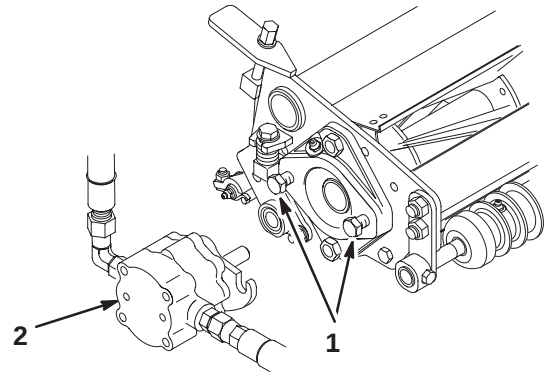

Figure 14
7. Assemble the mounting capscrews for the reel drive motor to each cutting unit. Leave approximately 1/2 in. (13 mm) of threads exposed on each mounting capscrew (Fig. 14).
10. Coat the spline shaft of the motor with clean grease and install the motor by rotating the motor clockwise so that the motor flanges clear the studs. Rotate the motor counterclockwise until the flanges are encircling the studs. Tighten the mounting capscrews (Fig. 14).